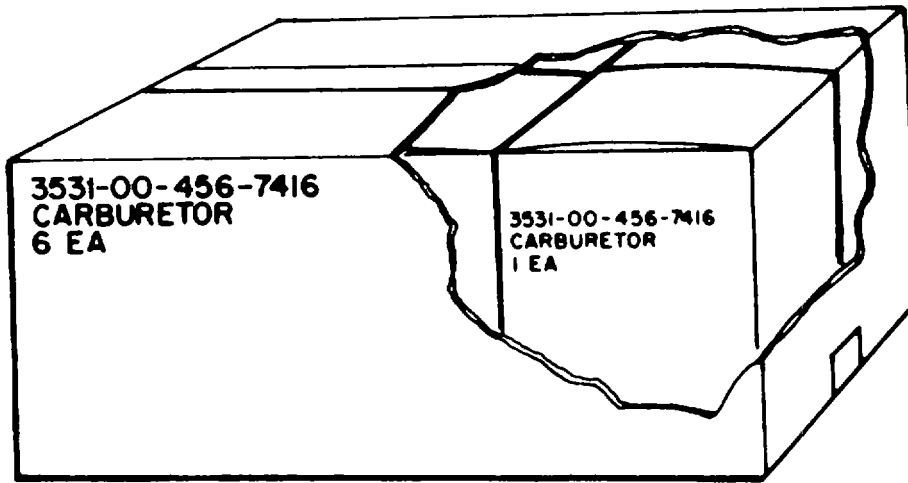
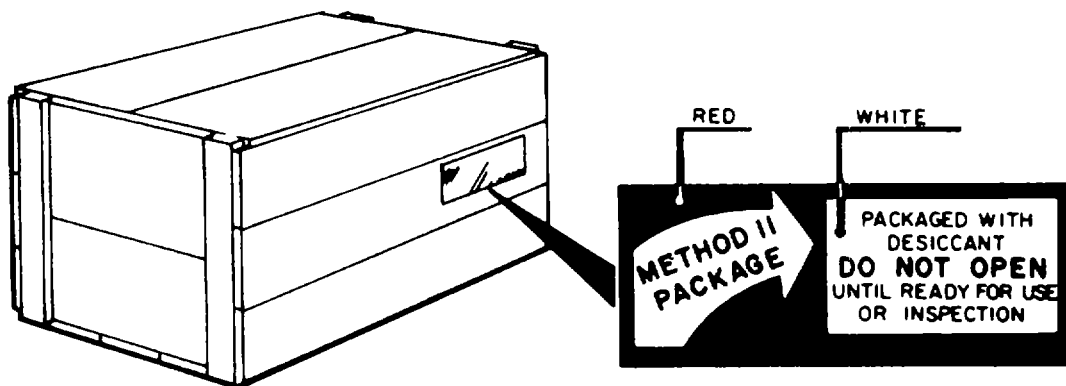
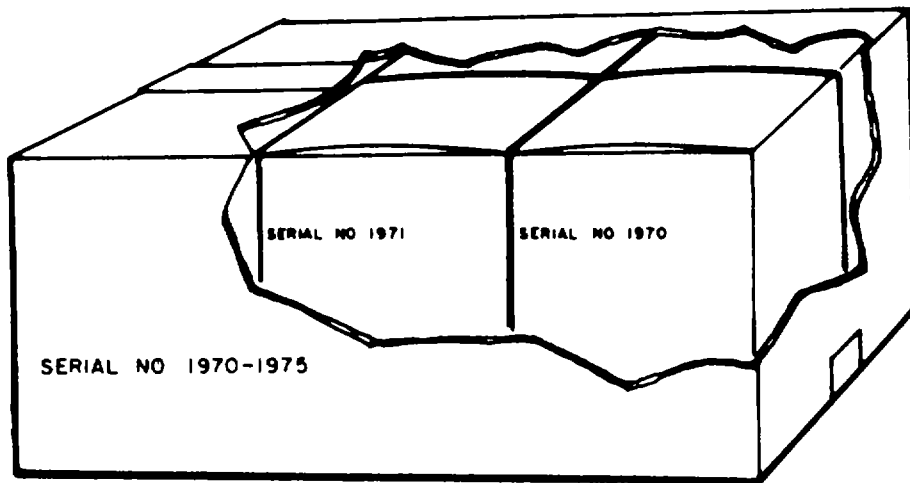

Figure E-1. Unit and Intermediate Container Identification Markings.
Figure E-2. Method II Marking.
Figure E-3. Serial Number Markings.
a. Apply the following markings on interior packs in the order listed (fig. E-1):
- (1) National stock number.
- (2) Item description.
- (3) Quantity and unit of issue.
b. Do not make the words "national stock number, item description, and quantity and unit of issue" a part of the markings. In addition, apply a precautionary label, 7540-00-139-4734 or 7540-00-139-4752, to method II packages (fig. E-2), except that when space is not available, place the words, "METHOD II PACKAGE - DO NOT OPEN UNTIL READY FOR USE," in as large letters as possible adjacent to the identification markings. For an item assigned a serial number, the number shall be applied below the identification marking preceded by the words "SERIAL NO." (fig. E-3).
k. Method II Markings. Method II packs which are shipping containers will bear a precautionary label, 7540-00-139-4734 or 7540-00-139-4752, on the identification-marked side (fig. E-2).